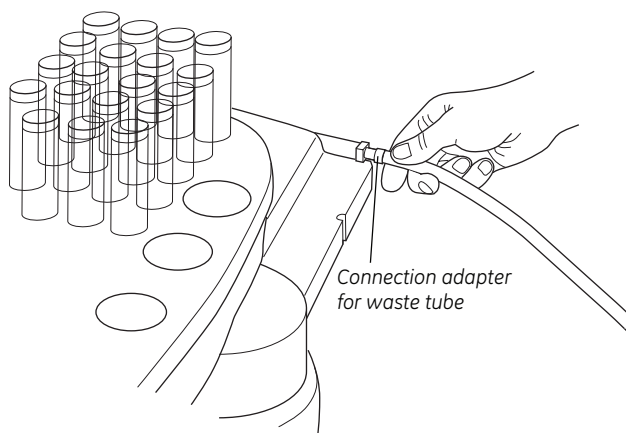

Figure 2-10. Waste tubing connection.
- 1 Connect the supplied waste tubing to the waste outlet as shown in Figure 2-10.